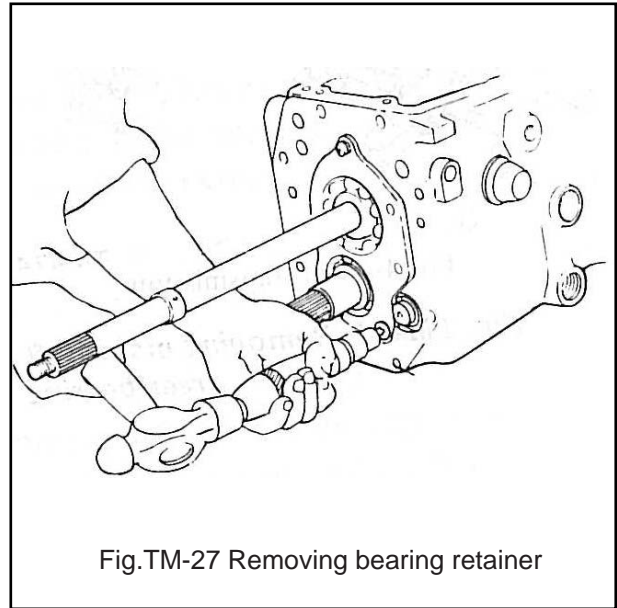

Fig.TM-27 Removing bearing retainer
4.Remove small flat head screws securing bearing retainer, using a shock drive. Remove bearing retainer. See Figure TM-27.